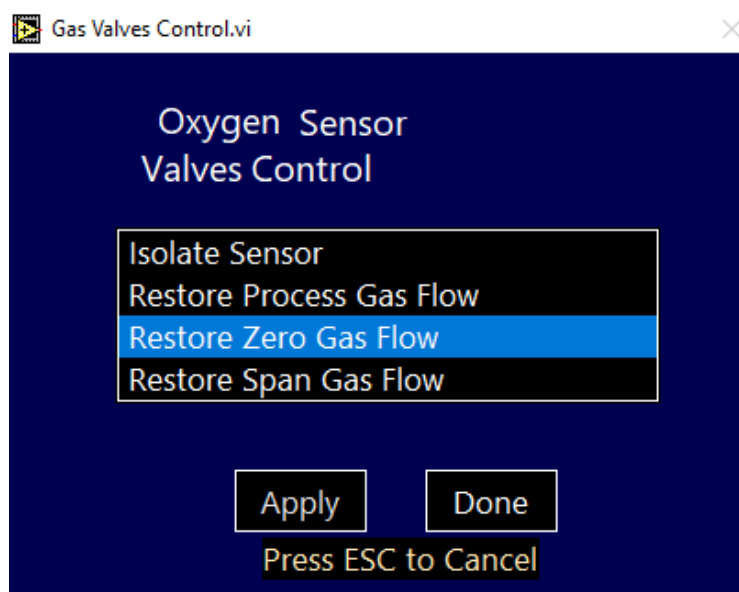

Figure 16: Oxygen Sensor Valves Dialog Box
- c. On the Oxygen Sensor Valves Control dialog box (Figure 16), select Restore Zero Gas Flow, then select Apply and Done.